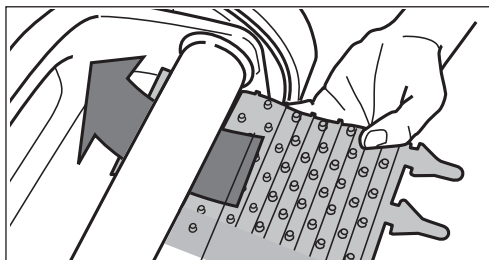

Figure 28. Position the New Brush on Roller
3. Position the new brush underneath the roller with the spikes facing downwards as shown in *Figure 28*.